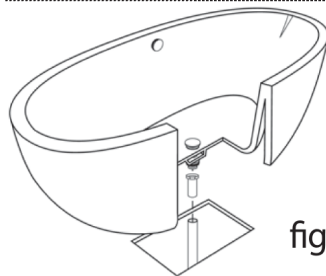

figure 13
19. Carefully set tub into position (figure 13) and connect the drain hardware (previously installed). Finish the installation of the tail - piece installation.